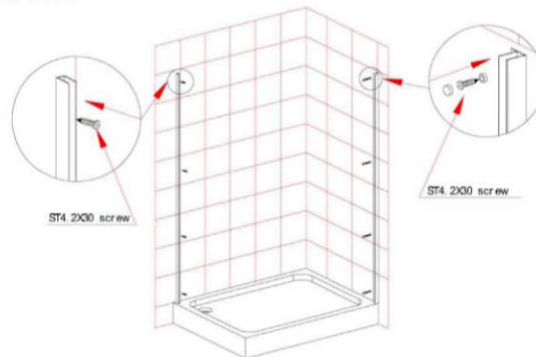

Fig 4
- Fix the wall profile (1) to the wall with the rubber washers and ST4.2x30 screws (5), as shown in figure 4 right. Cover the screws with the screw caps (4). Fix the wall profile of the side panel (17) to the wall with ST4.2x30 screw, as shown in figure 4 left.